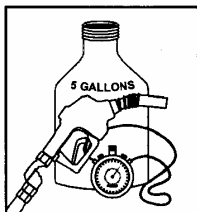

FIGURE 6/FIGURA 6
- Equipment required: stop watch (Figure 6) 5 gallon vented test can